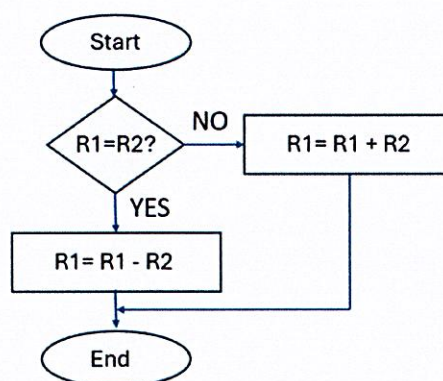

Figure A2(b): Flowchart
- (b) Referring to the flowchart in Figure A2(b) below, explain the sequence of ARM assembly instructions required to execute the decision and arithmetic blocks in the flowchart. Include in your explanation which instruction handles the 'YES' path and which handles the 'NO' path).